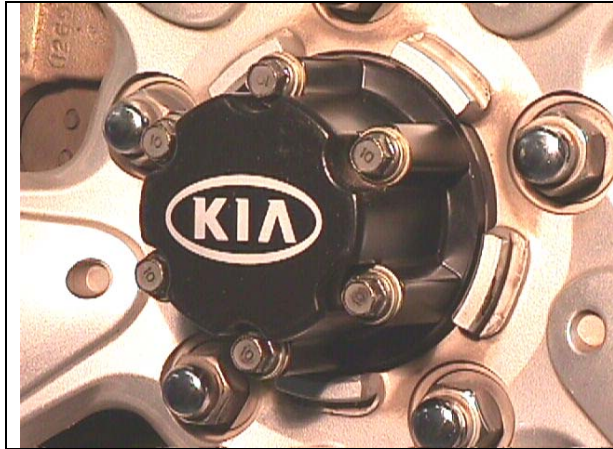
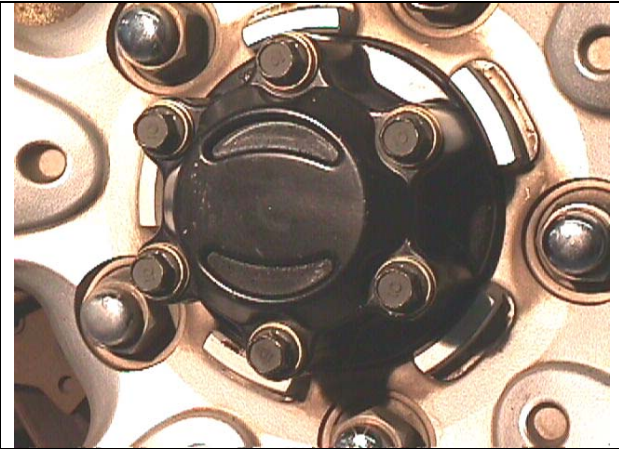

Figure 1 - Cam Type Auto Hublock
Figure 2 - Vacuum Type Auto Hublock
1. For the Kia Sportage, you will need to determine what hublock type you have. The Sportage was produced with two different types of automatic hublocks. For 1995-1997 the Sportage came with a cam type automatic hublock as shown in Figure 1. From 1998 it came with a vacuum type automatic hublock as shown in Figure 2. All other vehicle types, proceed to step 10.